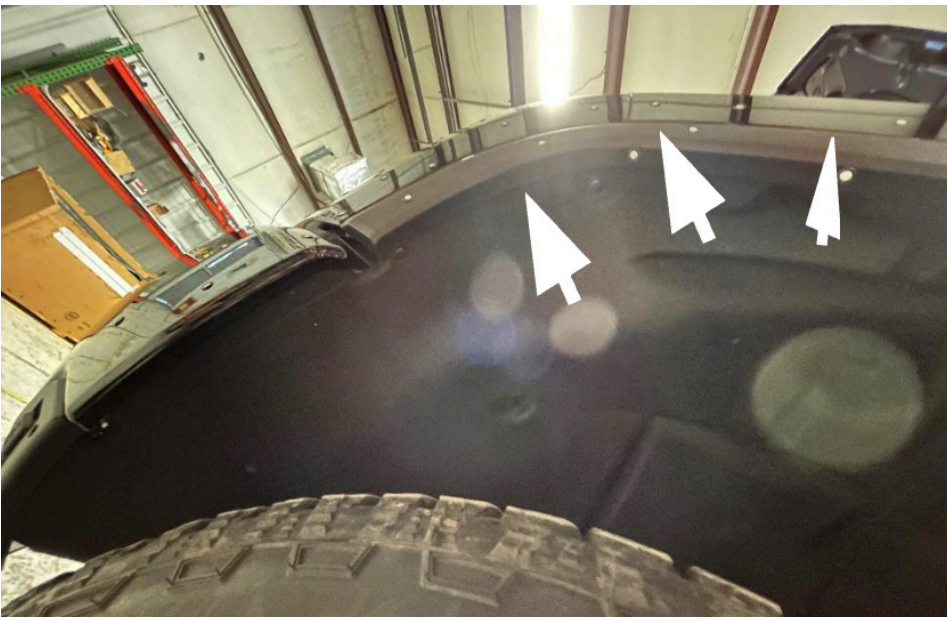

Figure 4
4. Using a panel pry tool, pull outward on the fender flares at the front near the bumper to access the fascia screws. Figure 4